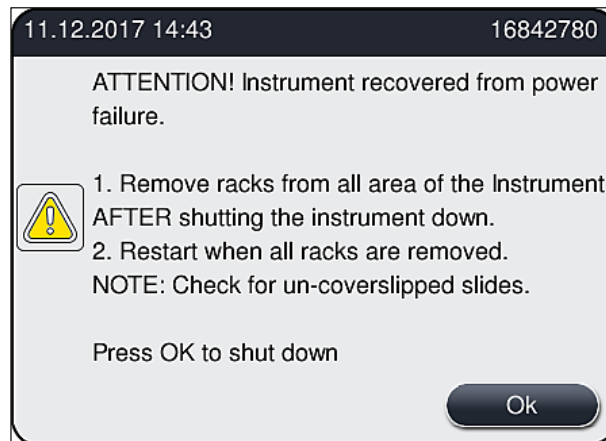

Fig. 108
- After the power supply has been restored, the instrument automatic performs a restart. The user is notified of the power failure by an information message (→ Fig. 108) on the screen, and the event is entered into the event log.
- ① After power supply has been restored, the instrument restarts automatically. An audible warning signal sounds and a warning message is displayed on the display (→ Fig. 108).
Then follow the instructions in the information message (→ Fig. 108) and remove the slides from the instrument.